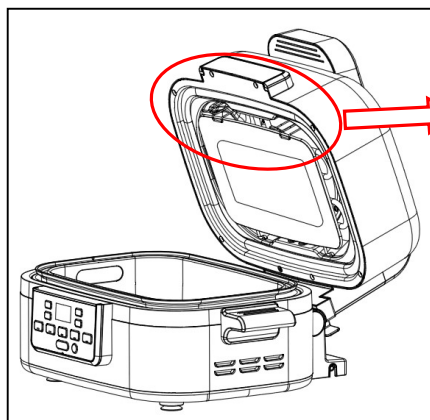

Fig.2
8. Please clean the oil separator after use. Press the fasteners of oil separator to remove it (See Fig.2 and Fig.3) . And the oil separator must be installed well in position after cleaning to avoid bad cooking result.